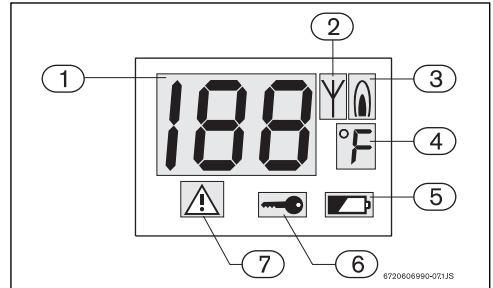

Fig. 11 Multifunctional LCD
appear on the display (Fig. 11, [1]) and by a symbol indicating a “safety block” (Fig. 11, [7]). The remote control will be operative only after pressing the reset button on the heater and clearing the error.
When batteries are weak, the low battery symbol (Fig. 11, [5]) will appear on the display.
- ▶ With no hot water running, press and hold the “” or “” buttons for 5 seconds on the locked out device (remote or water heater) until the “” symbol (Fig. 11, [6]) disappears.